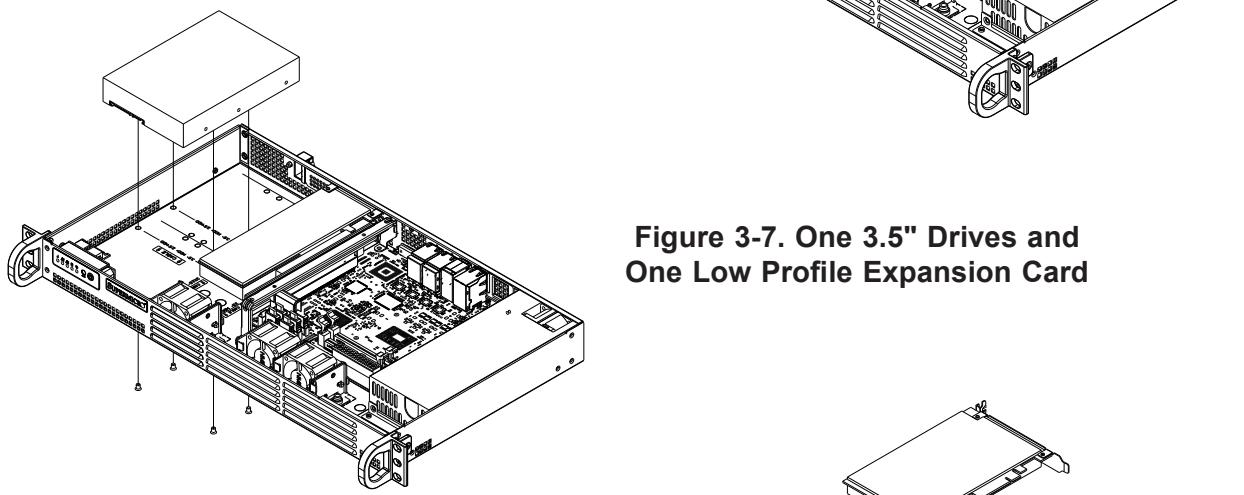

Figure 3-7. One 3.5" Drives and One Low Profile Expansion Card
2. Place the drives onto the chassis floor as illustrated in Figure 3-7 or Figure 3-9.